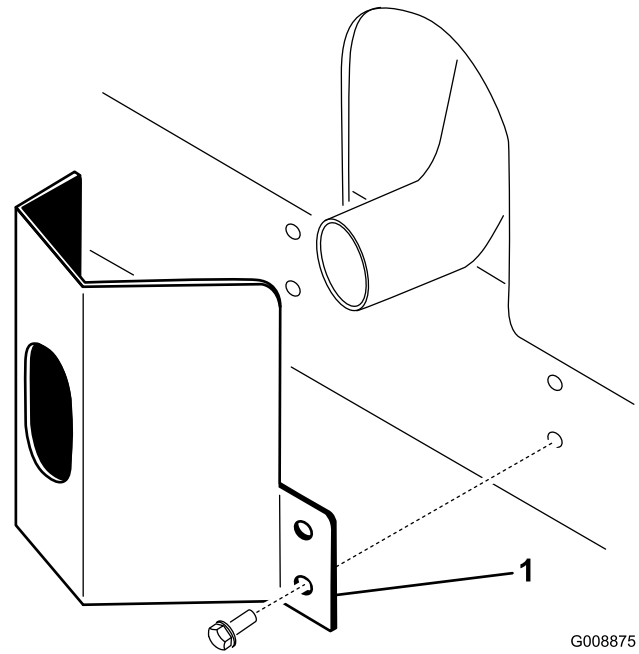

Figure 10
- 2. Secure the exhaust guard to the frame with 4 self-tapping screws (Figure 10).
1. Position the exhaust guard around the muffler while aligning the mounting holes with the holes in the frame (Figure 10).